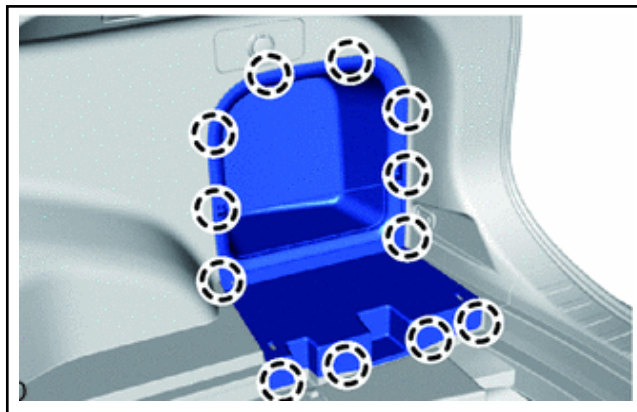

Figure 3-3
c. Detach the 12 claws and remove the battery hole cover. See Figure 3-3.